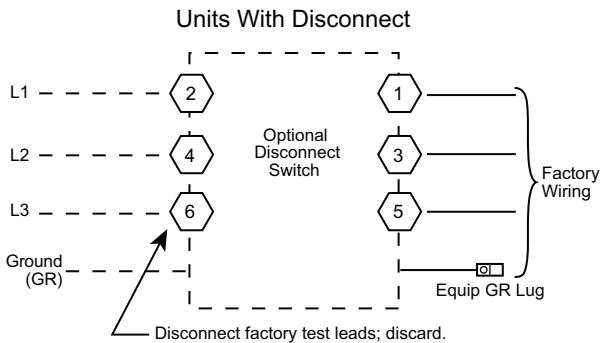

Fig. 34 — Power Wiring Connections
Size wire based on MCA (Minimum Circuit Amps) on the unit informative plate. See Fig. 34 and the unit label diagram for power wiring connections to the unit power terminal blocks and equipment ground. Refer to Table 7 for maximum wire size at connection lugs.
The factory-installed optional non-fused disconnect switch (NFD) is located in a weatherproof enclosure located under the main control box (see Fig. 35). The manual switch handle is shipped in the disconnect enclosure. Assemble the shaft and handle to the switch at this point. Discard the factory test leads (see Fig. 34). The factory disconnect is either an 80A or 100A depending on the unit voltage, indoor motor and options.
2. Install power lines to terminal connections as shown in Fig. 34.